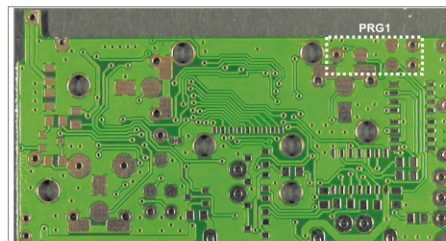

Fig. 15: Contact pads PRG1
- Set the contact plug of the program adaptor on the contact pads PRG1 of the board into place (see Fig. 15).